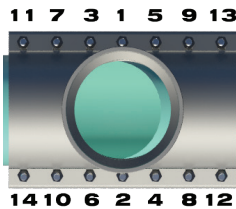

Figure 5
D.8) Using a torque wrench, tighten nuts in proper pattern. Tightening pattern is shown in Figure 5. Repeat tightening pattern in no more than 25 ft. lb. increments until recommended torque is reached.